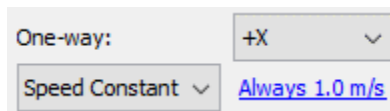

Figure 64. Changing a stair into an escalator
4. Click the **Speed Modifier** drop-down, and choose **Speed Constant** as shown in Figure 64.